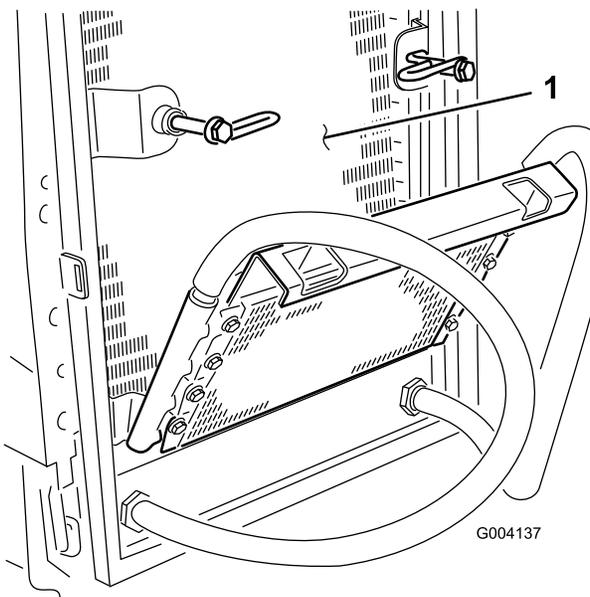

Figure 61
7. Thoroughly clean both sides of the oil cooler and the radiator (Figure 61) with compressed air.